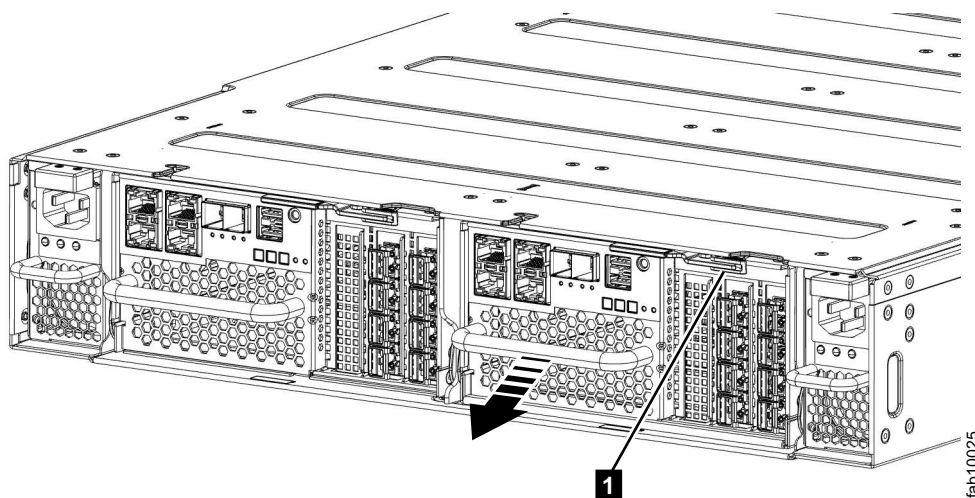

Figure 75. Removing a node canister
6. On the canister, unlatch the release lever and pull it open (see Figure 75). The canister moves out of the slot approximately 0.6 cm (0.25 inch). Be careful that you do not inadvertently disturb or remove any cables that are connected to other components of the system.